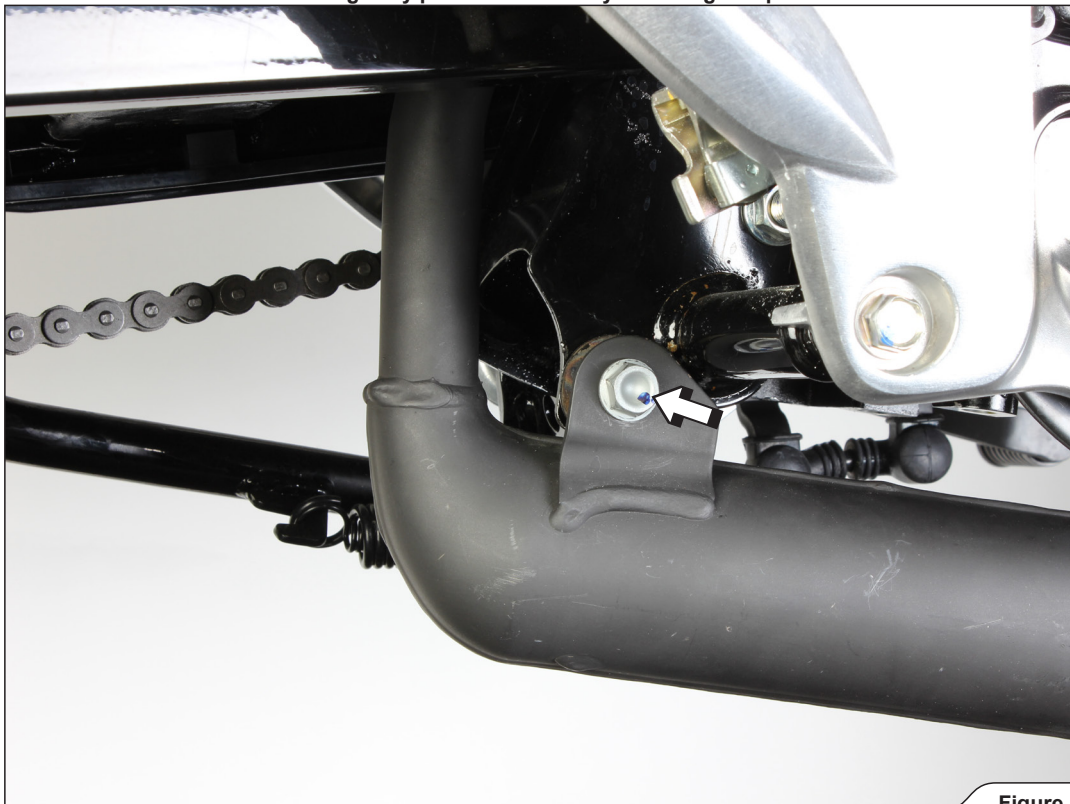

Figure 1
2. Unscrew the marked header's bracket bolt (**Figure 1**).